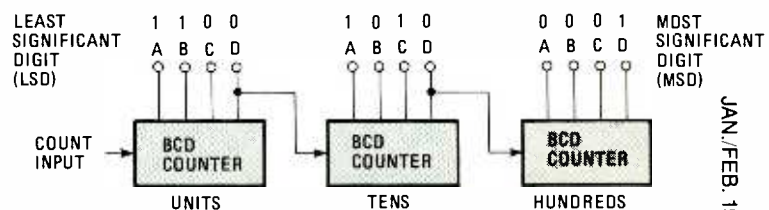

Fig. 13—Cascaded BCD counters.
To use a BCD counter for counting to values higher than 9, all you do is cascade them as shown in Fig. 13. The first or input BCD counter then counts in units of 0 through 9. After ten input pulses occur, the MSB output of the first counter (D) triggers the next BCD counter in sequence. That second counter represents the tens position. It will be incremented for every ten input pulses. The tens counter in turn drives the third or hundreds counter. It will be incremented each time one hundred input pulses occur. Additional counters can be added for thousands, tens of thousands, hundreds of thousands, and so on.
shown in Fig. 13 will produce frequency division by some multiple of 10. The first BCD counter will divide the input frequency by 10. The D output will be one-tenth the frequency of the input. The second counter will produce division by 100 while the third will produce division by 1000.